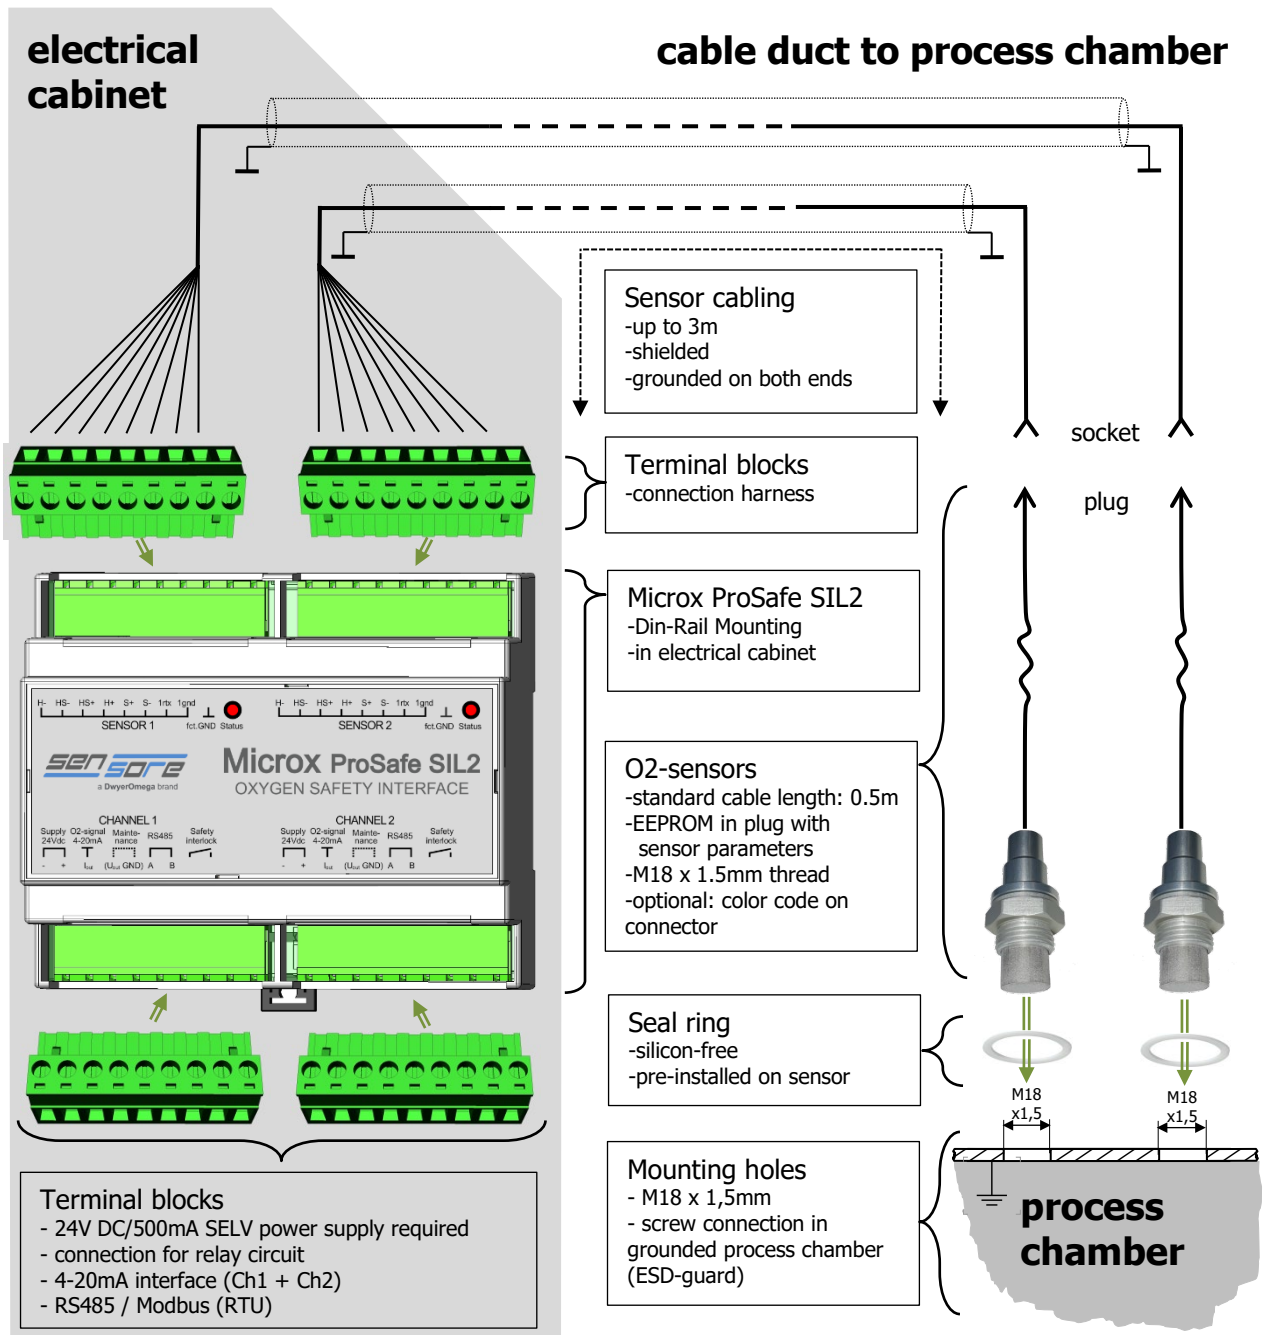

Figure 1. Larger Safety System schematic
- When the sensor's metal housing is screwed directly into the grounded metal wall of the process chamber, it provides adequate protection against electrostatic discharge (ESD). Refer to Figure 1 on page 3 for guidance.